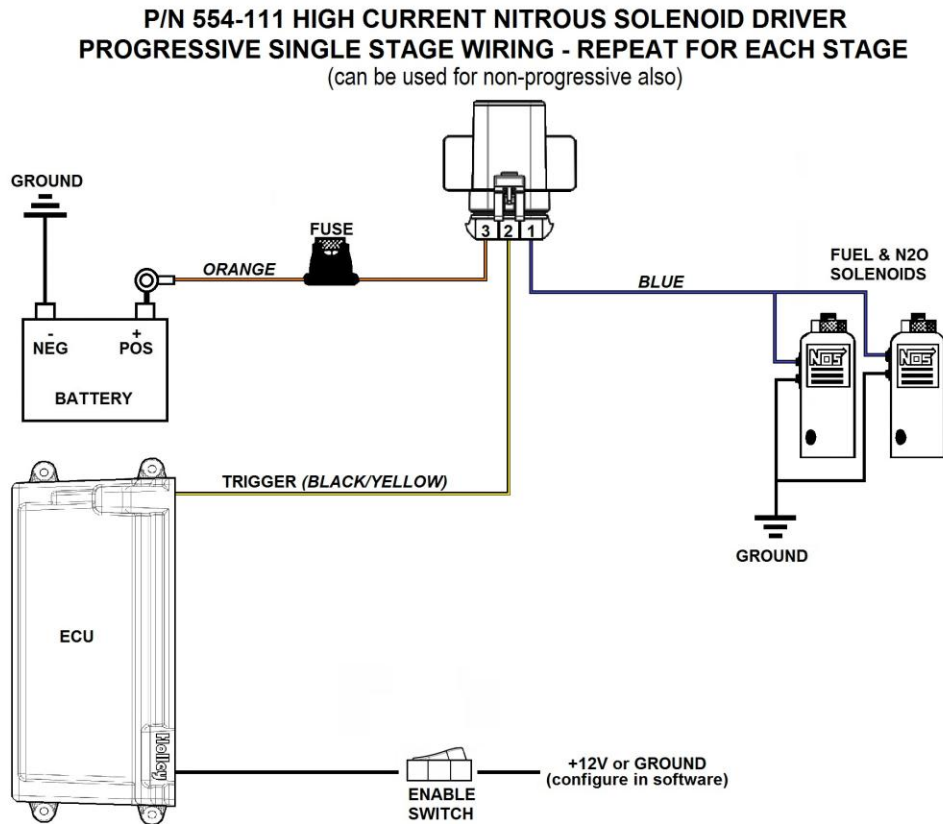

Figure 17
**Progressive Wiring** – When using progressive control, PN 554-111 must be used as a high current solenoid driver that the ECU controls. **A regular switching relay should never be used for progressive nitrous operation (other than for supplying constant power, it should never be “pulsed”)**. Figure 17 shows the proper wiring for a single stage. For additional stages, additional driver modules are required. **Note:** PN 554-111 CAN be used for non-progressive stage, if desired, in lieu of a standard relay.